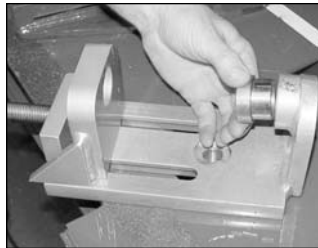

Figure 25
1. Insert appropriate size bushings into spring bolt vise attachment. (See Figures 25 and 26)